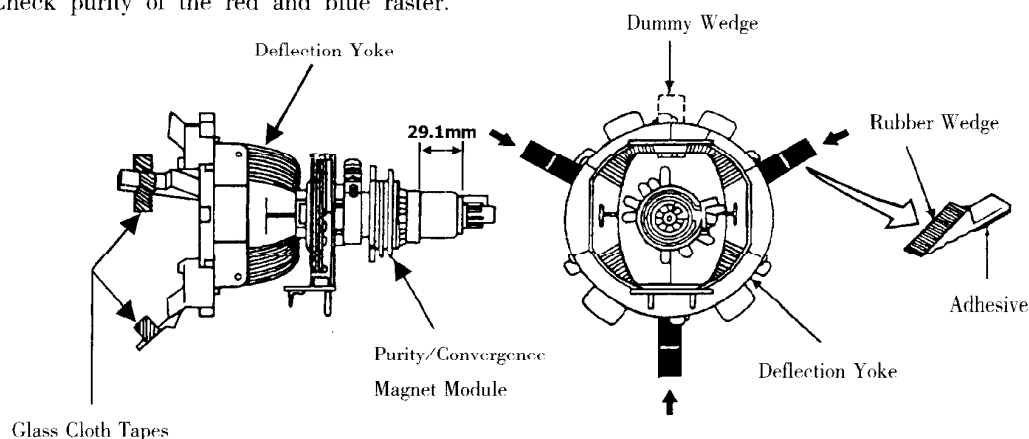

Fig. 13
The purity/convergence magnet assembly and rubber wedges need mechanical positioning. Refer to Fig. 13.
- 2) Temporarily put a wedge as shown in Fig. 13. (Do not remove cover paper on adhesive part of the wedge.)
9) Stick three adhesive tapes on wedges as shown in Fig. 13.